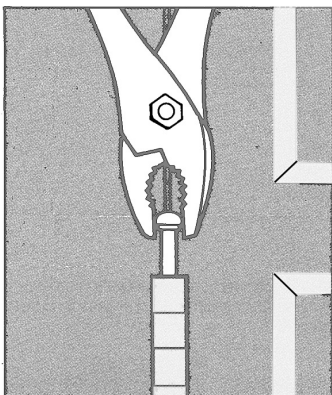

Figure 5-1
5. Use your hammer to tap the pins the rest of the way up and out of the joint, or grasp them with a pair of pliers and jiggle them out (Figure 5-1).